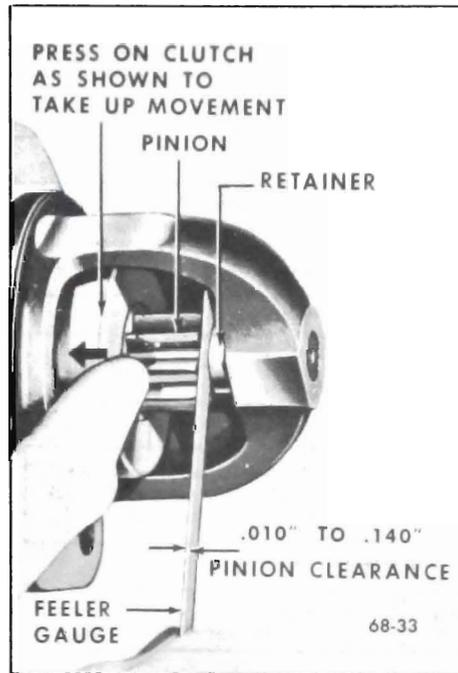

Figure 68-27--Checking Pinion Clearance
2. After energizing the solenoid, push the pinion away from the stop retainer as far as possible and use feeler gauge to check clearance between pinion and retainer. See Figure 68-27.